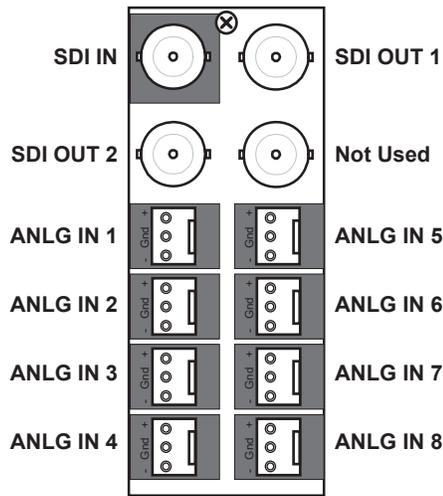
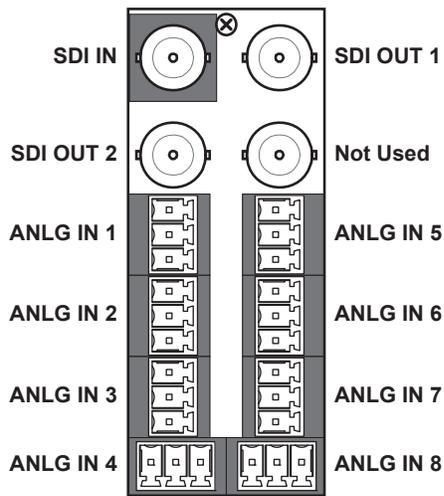

Figure 25 Cabling — 8320AR-062-02
Figure 26 Cabling — 8320AR-062-03
**Figure 25** illustrates the cabling designations for the 8320AR-062-02 rear module. **Figure 26** illustrates the cabling designations for the 8320AR-062-03 rear module.